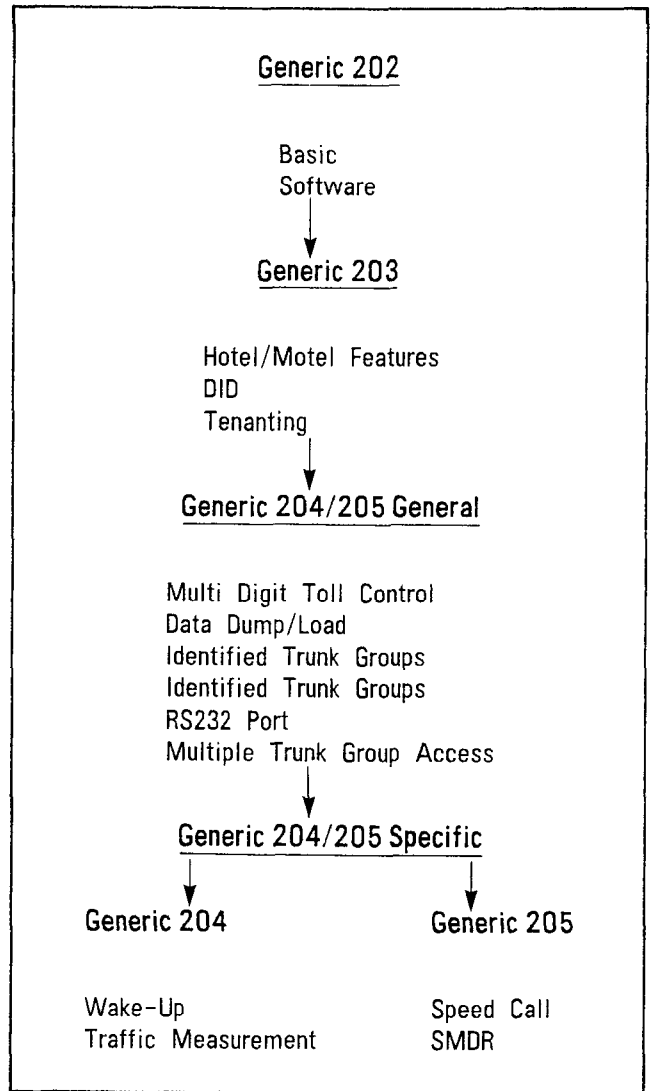

Fig. 2-1 Generic Overview
2.05 The SX-100/SX-200 PABX's are provided with various degrees of sophistication in their software abilities. Note individual system Generic when referring to this documentation. Features which are supplied only by specific Generics carry a note eg. Generic 203/up. For an overview of the Generic abilities see Fig. 2-1 and reference Table 2-2.